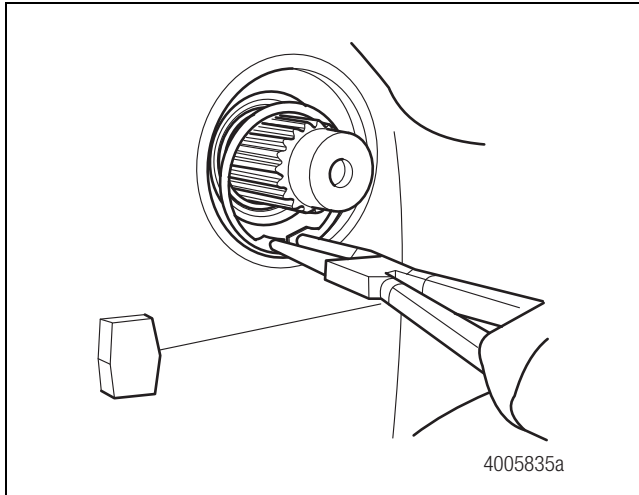

Figure 3.14
6. Use snap ring pliers to remove the snap ring. Figure 3.14.